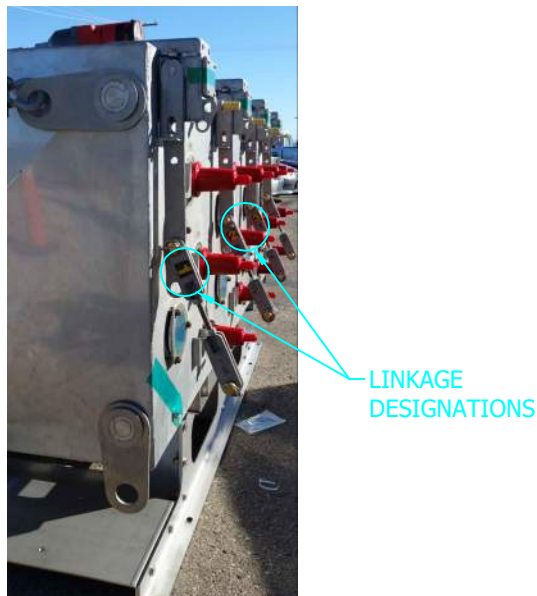

FIGURE 41 (E)
- (E) MOTOR OPERATORS AND LINKAGES ARE MATED TO THE SWITCH AND IDENTIFIED AT THE MANUFACTURING PLANT. MOUNT MOTOR OPERATORS WITH CORRESPONDING WAYS AFTER THE CABLE HAS BEEN LANDED AND PRIOR TO MOUNTING THE ENCLOSURE. SEE FIGURE 41 AND 42.